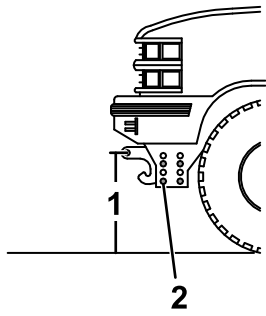

Figure 33
1. Measure the distance from the ground to the coupler spring-pin holes on the undercarriage pushbeam (Figure 33). The measurement should match the height listed for your plow in Specifications \(page 23\).
2. If the pushbeam is not at the correct height, remove the fasteners securing the pushbeam to the undercarriage (Figure 33).